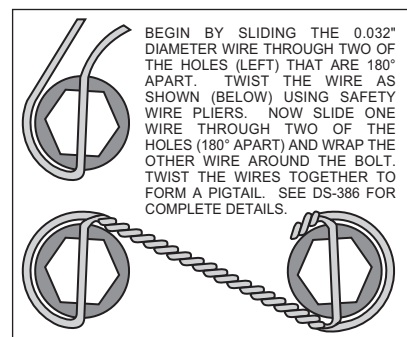

Figure 3. Safety Wire Diagram
- Apply red *Loctite*® 271 to bolt threads (2 and 3) before assembly of the caliper bracket (1) to backing plate face of spindle. Insert the two thicker mounting bolts (3) and the small mounting bolt (2) through the caliper mounting bracket (1). Position the caliper mounting bracket (1) onto the spindle, slipping each of the three mounting bolts (2 and 3) into the threaded spindle holes, finger tighten. Torque two bolts (3) to 77 ft-lb. Torque bolt (2) to 180 in-lb. **NOTE:** Be sure the heads of the caliper bracket (1) insert nuts are facing outward toward the wheel.
- Install five new wheel studs (4) into the hub (5). Torque to 77 ft-lb. **NOTE:** There are two five lug patterns in the hub (5 x 4.00 and 5 x 4.50). Make sure of the correct hole pattern for the correct wheel application before installing studs into hub.
- Pack the large inner bearing cone (6) with high temperature disc brake bearing grease (available from your local auto parts store) and install into the backside of the hub (5).
- Install the grease seal (7) by pressing into the backside of the hub (5).
- Attach rotor adapter (8) to rotor (9) using six bolts (10). Torque bolts (10) to 180 in-lb. Safety wire bolts (10) using standard 0.032 inch diameter stainless steel safety wire as shown in Figure 3. Please refer to Wilwood's data sheet DS-386 (available at www.wilwood.com/Pdf/DataSheets/ds386.pdf) for complete safety wire installation instructions. **NOTE:** The flat side of the rotor (9) lugs face toward the rotor adapter (8) with the dished side of the rotor adapter (8) facing away from the rotor (9).